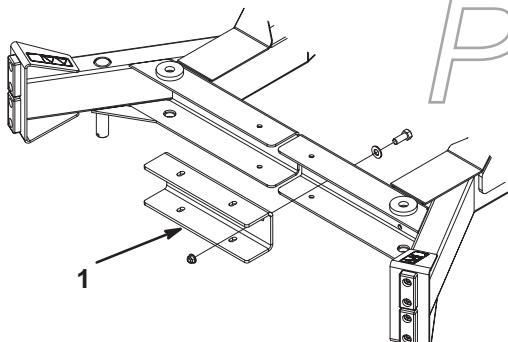

Figure 9
4. Secure right and left lift arms together with the connection channel and (10) 3/8 x 1–1/4" lg. screws, .406 x .813 flatwashers and 3/8 flange locknuts. Position as shown in figure 9. Torque to 27–33 ft-lb.